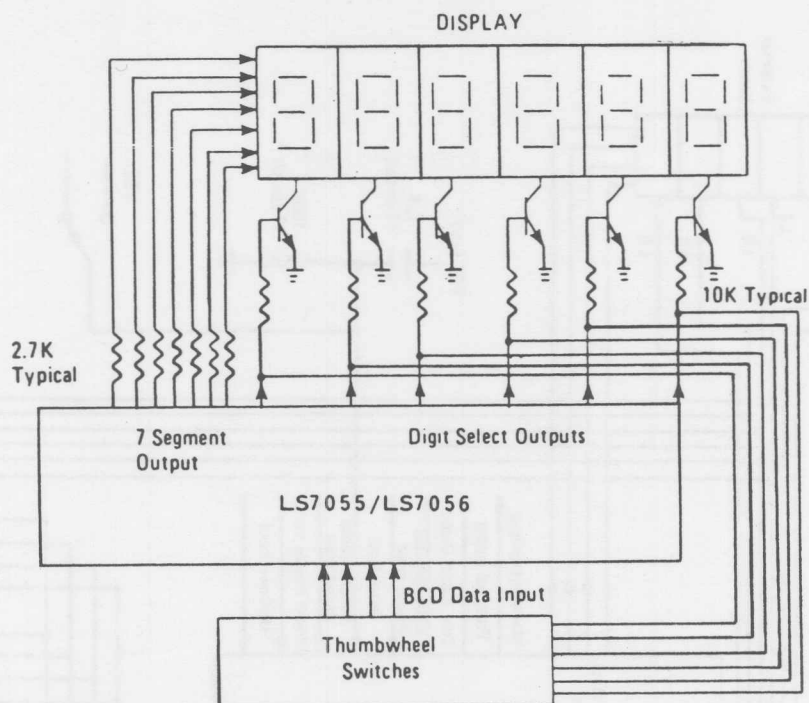

FIGURE 5
*BCD data input assumed to be applied from a set of thumbwheel switches as shown in Figure 5.